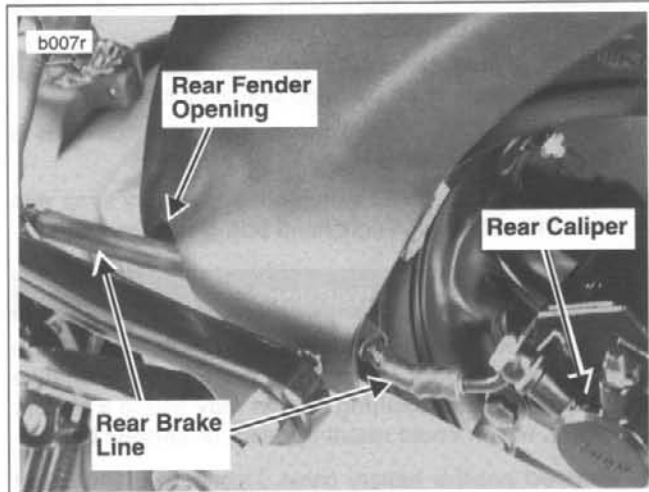

Figure 2-92. Rear Brake Line Routing
3. See Figure 2-92. Working from the right side, install brake line and align metal portion of brake line with rear master cylinder. Route caliper side of brake line in front of tie bar and through rear fender opening to rear caliper.